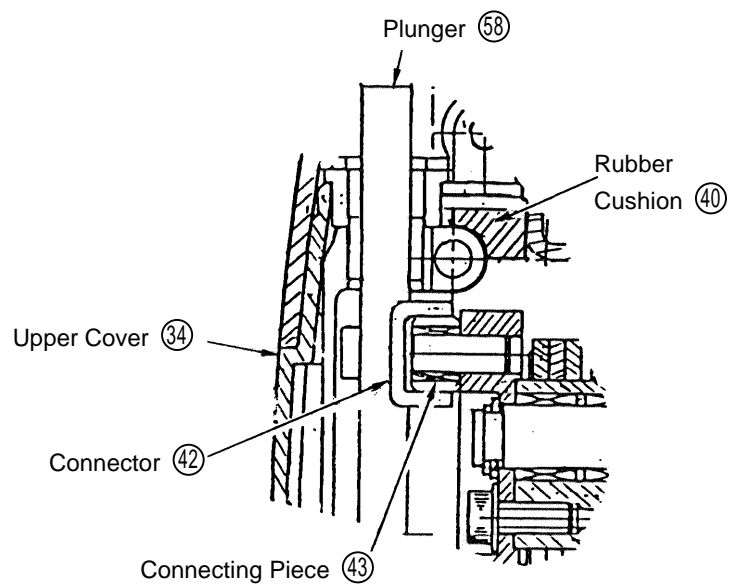

Fig. 20
- (8) After confirming that the Packing (47), Shooter (26), and Rubber Cushion (40) are properly installed, fit the Upper Cover (34) to the Gear Cover (15) so that the Connecting Piece (43) properly enters the Connector (42). (See Fig. 20)